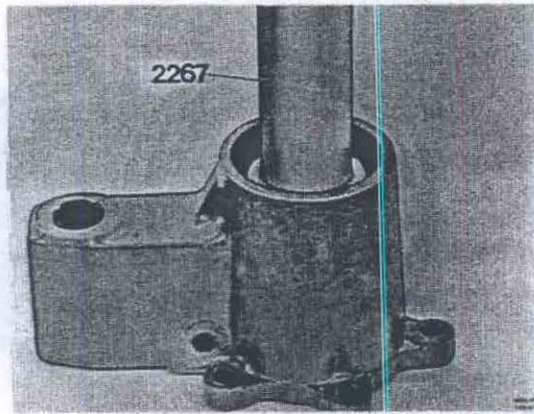

Fig. 43-175. Pressing in bearing
1. Fit the inner circlip (thickness 2.0 mm = 0.08") in position in the housing. Press in the bearing with 2267, Fig. 43-175.